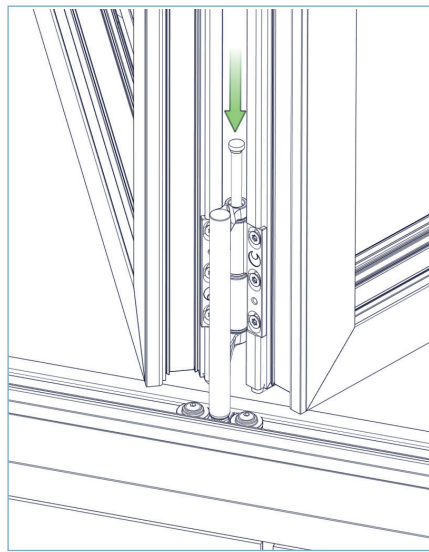

FIG 7E
- ▶ **7.7.** Remove the screw and insert the fork pin into the bottom fork and hinge using a plastic hammer to gently tap the pin in fully, being careful to align the hinge and fork as the pin goes through as shown in FIG 7E.